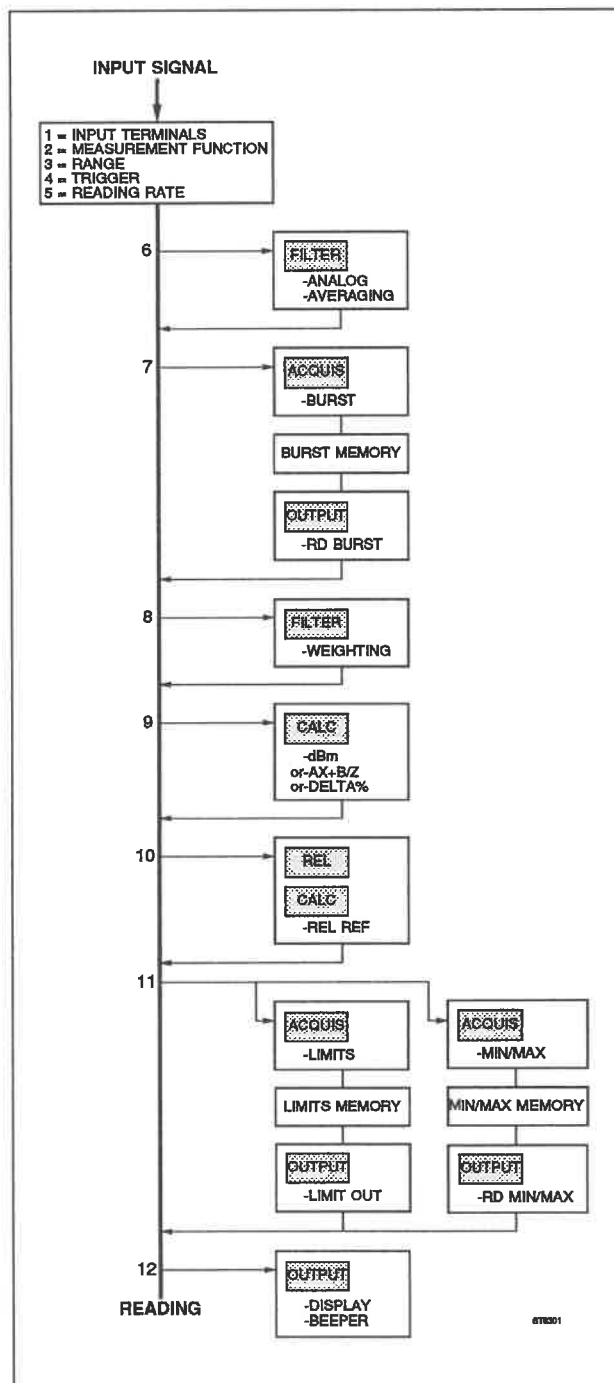

Fig. 4.6 Measurement set up flow diagram.
The PM2530 provides several functions in addition to the basic multimeter functions. Fig. 4.6 gives an overview of these additional functions and shows the order in which they influence the input signal (if selected). You can use this order to configure the instrument. Refer to items 6...12.